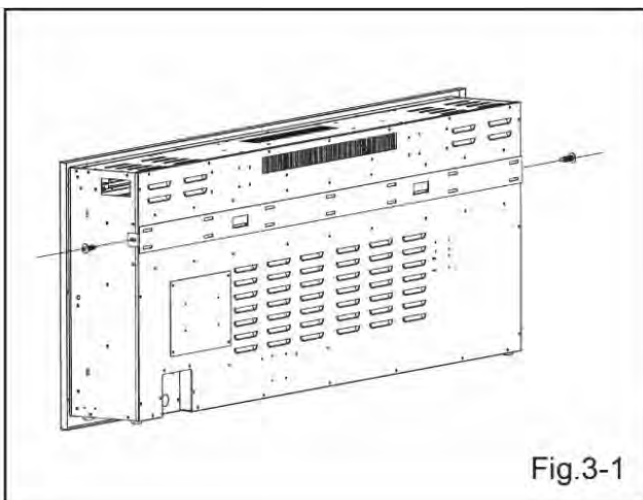

Fig.3-1
**NOTE: A dedicated 13 Amp (EU) or 10 Amp (AU/NZ) breaker is required.**
- Remove the wall bracket (**H**) from the back of the unit by removing the screws, see FIG. 3-1. Set screws aside.